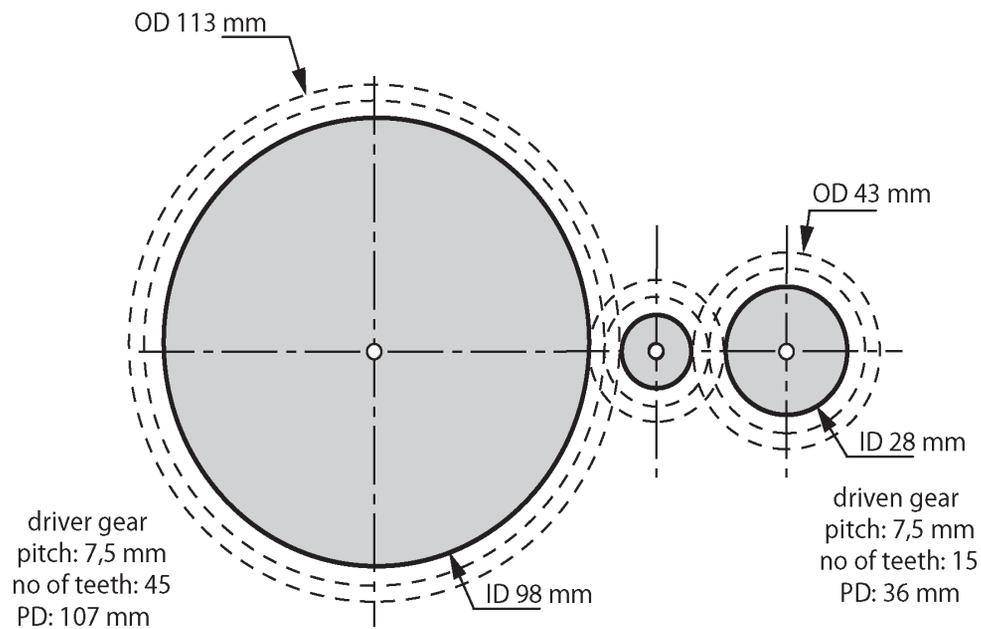

Figure 12: (This drawing is not drawn to scale.)
1. Add an idler to this gear system as shown in Figure 12. Now draw this new system on grid paper, to a scale of 1:1.